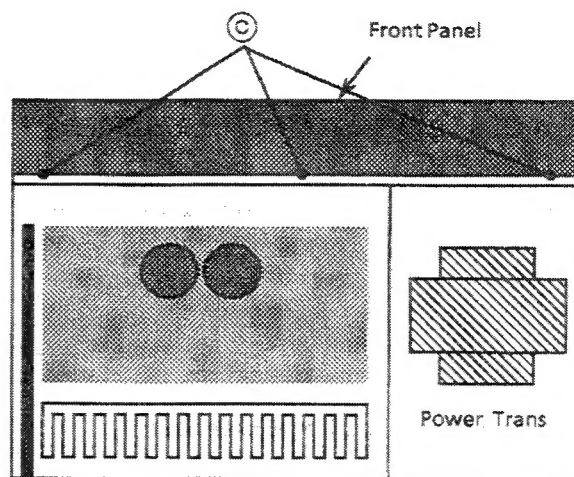

Fig 1. Top View
2. Remove the 3 screws (B) and 3 plastic rivets (C). (Fig 1,2)
(4) Removing the Power Transistor